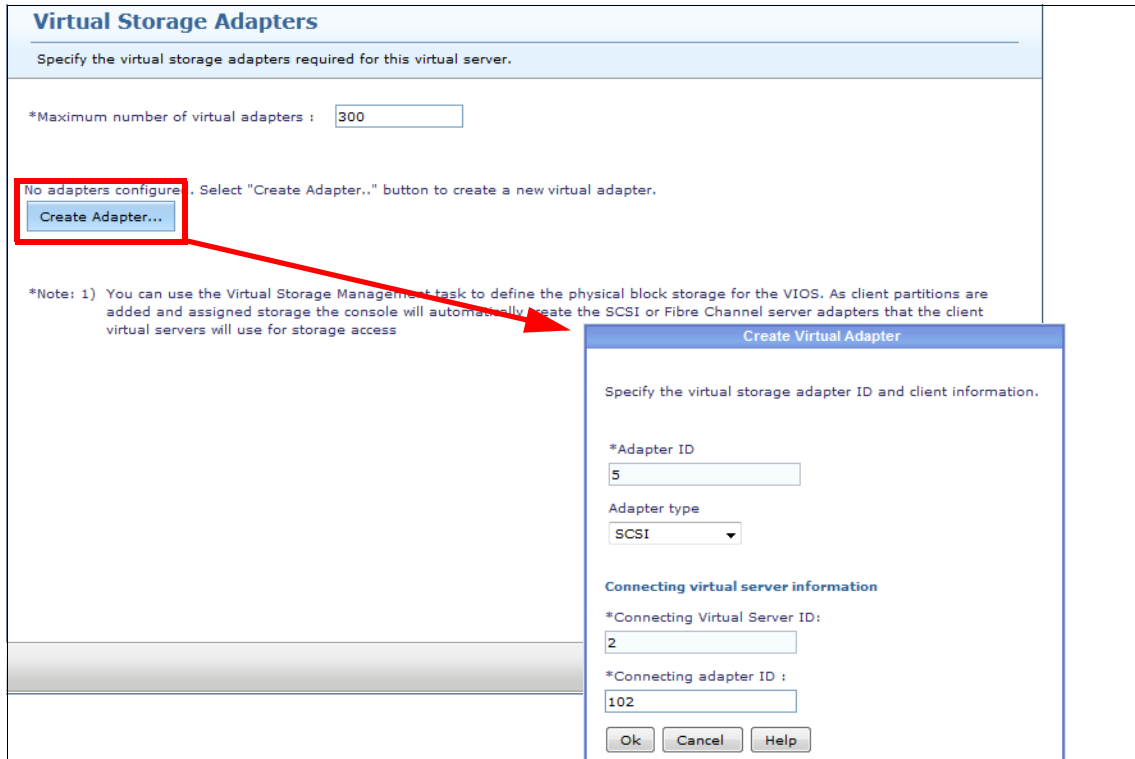

Figure 8-18 Create a virtual SCSI adapter on VIOS
1. Click **Create adapter...** to open the Create Virtual Adapter window, as shown in Figure 8-18 on page 369.